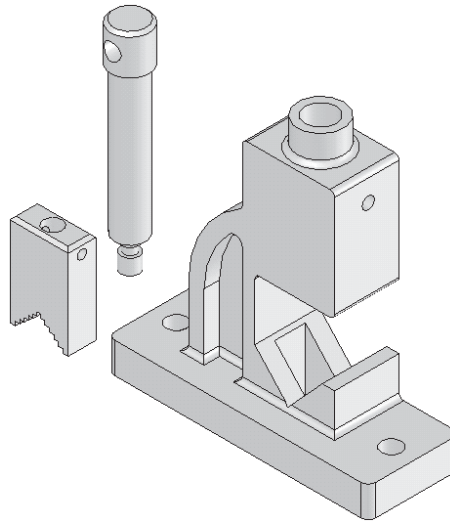

Figure 11-77 The Moveable Jaw, Screw, and Base placed in the assembly document
- Place the Moveable Jaw and the Screw in the assembly. Apply the mates between Moveable Jaw and the Screw, refer to Figures 11-77 through 11-79.
3. Similarly, place the Screw in the assembly document and choose the **OK** button from the **Insert Component PropertyManager**. Figure 11-77 shows the Moveable Jaw, Screw, and Base placed in the assembly document.